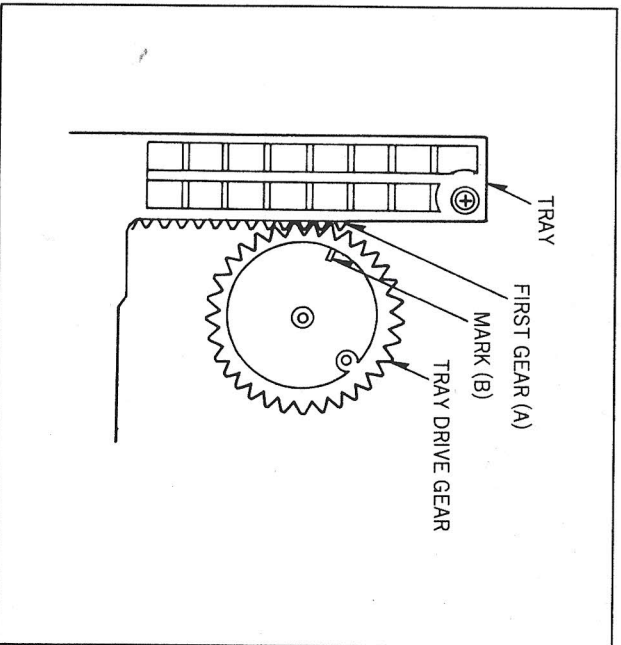
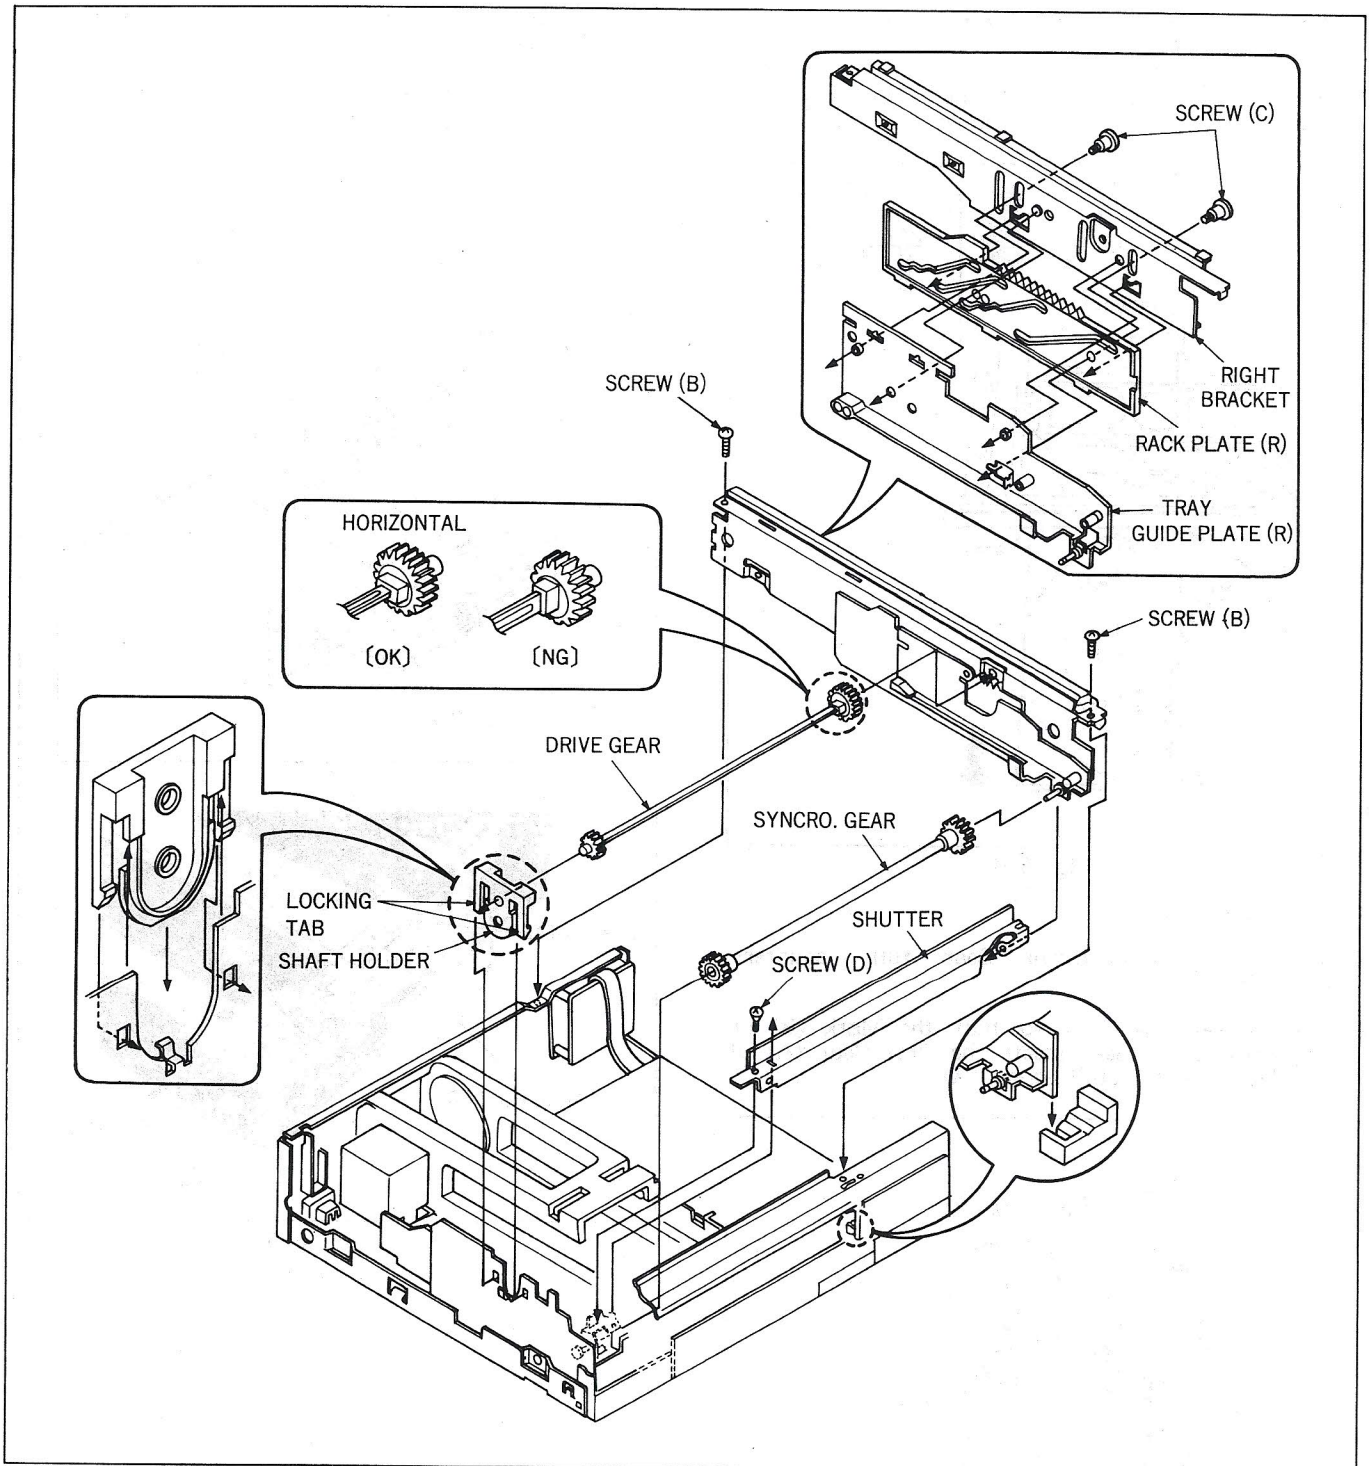

Fig. 6-2
Fig. 6-4
6. Set the Right Bracket with Rack Plate (R), Tray Guide Plate (R), Syncro. Gear, Drive Gear and Shaft Holder as shown in Fig. 6-4. And also set the Tray as shown in Fig. 6-2.
- Remove 2 screws (B) to remove the Right Bracket with Rack Plate (R) and Tray Guide Plate (R).
The Rack Plate (R) and Tray Guide Plate (R) can be removed from the Right Bracket by removing 2 screws (C) as shown in Fig. 6-4.
- Remove the Drive Gear Shaft and Syncro. Gear. Then remove the Shutter by removing screw (D). Remove the Shaft Holder by unlocking 2 locking tabs.
8. Install the Syncro. Gear and Shutter on Tray Guide Plate (R). Then install the Right Bracket with Rack Plate (R) and Tray Guide Plate (R). Install 2 screws (B) as shown in Fig. 6-4. Install the Drive Gear with Shaft Holder to Right Bracket so that projection on the Drive Gear faces upward (horizontal) as shown in Fig. 6-4.